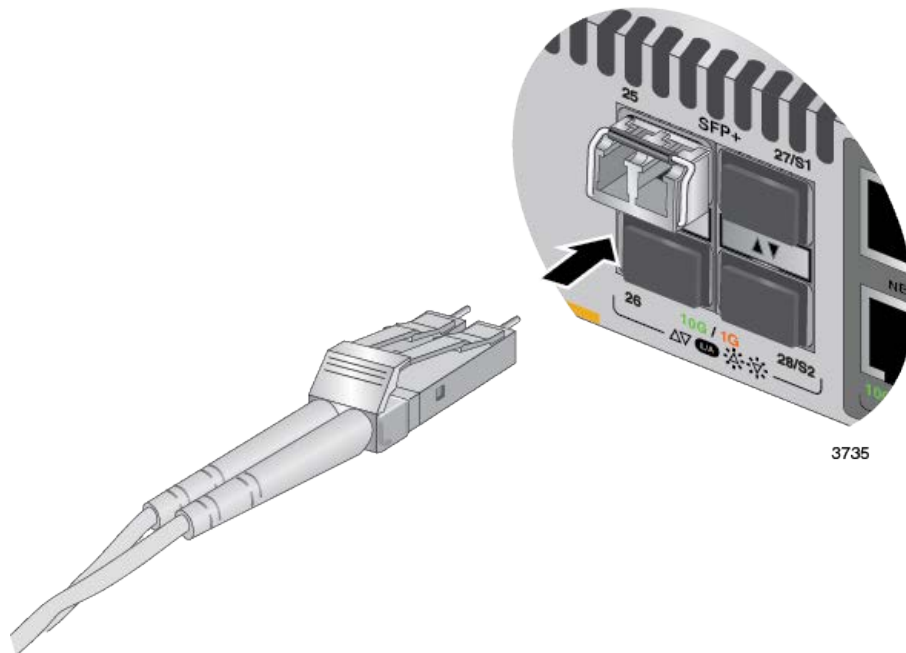

Figure 76. Connecting a Fiber Optic Cable to an SFP or SFP+ Transceiver
7. Connect the fiber optic cable to the transceiver, as shown in Figure 76. The connector on the cable should fit snugly into the port, and the tab should lock the connector into place.